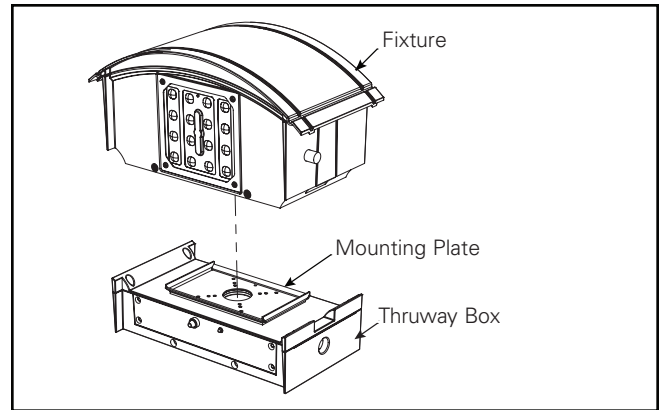

Figure 2b.
7. Remove mounting plate from the back of the fixture by loosening two (2) Allen head screws.
8. Install the fixture-mounting plate on thruway box cover with four (4) screw and nuts provided. (Figure 2b.)